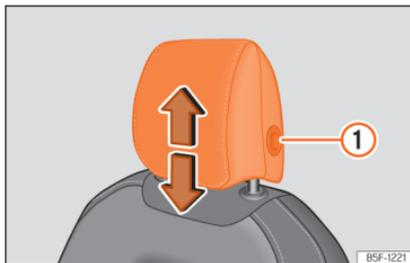
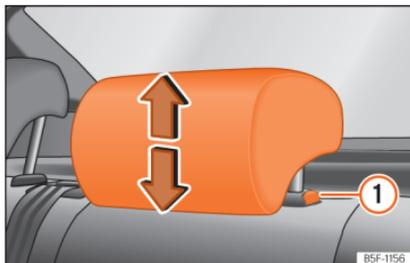

Fig. 113 Front seat: headrest adjustment.
Fig. 114 Rear headrest: headrest adjustment.
- Grab the sides of the headrests with both hands and push upwards to the desired position. To lower it, repeat the same action, pressing the ① »» Fig. 113 »» Fig. 114 button on the side.
- Press the side button »» Fig. 113 ① and remove the headrest.